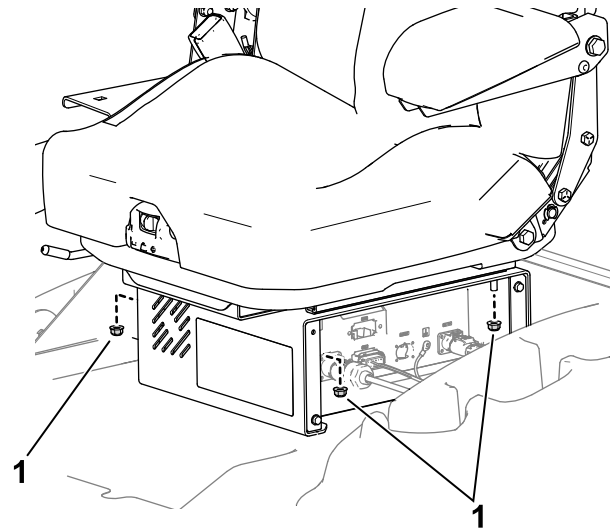

Figure 10
- B. Use 4 nuts to secure the seat to the seat base (Figure 10).